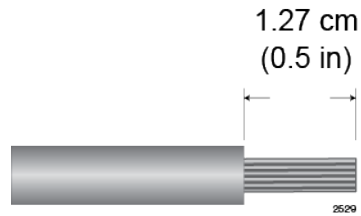

Figure 135. Stripping the Power Wires
1. Prepare adequate lengths of two stranded 8 AWG power wires by stripping them as shown in Figure 135 on page 213.